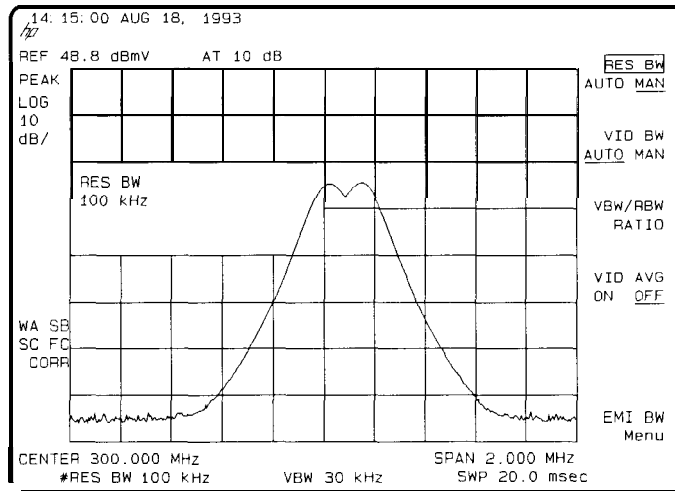

Figure 4-2. Resolving Signals of Equal Amplitude
Generally, to resolve two signals of equal amplitude, the resolution bandwidth must be less than or equal to the frequency separation of the two signals. If the bandwidth is equal to the separation a dip of approximately 3 dB is seen between the peaks of the two equal signals, and it is clear that more than one signal is present. See Figure 4-2.
4. Since the resolution bandwidth must be less than or equal to the frequency separation of the two signals, a resolution bandwidth of 100 kHz must be used. Change the resolution bandwidth to 100 kHz by pressing **BW** 100 **kHz**. Two signals are now visible as in Figure 4-2. Use the knob or step keys to further reduce the resolution bandwidth and better resolve the signals.